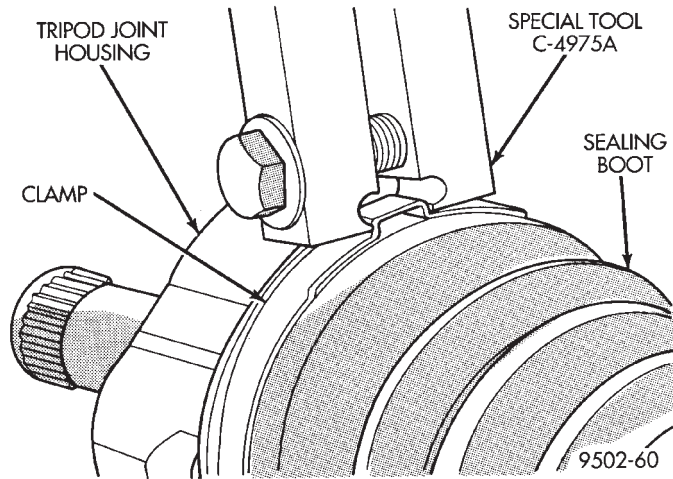

Fig. 37 Crimping Tool Installed on Sealing Boot Clamp
- Place crimping tool C- 4975-A over bridge of clamp (Fig. 37).